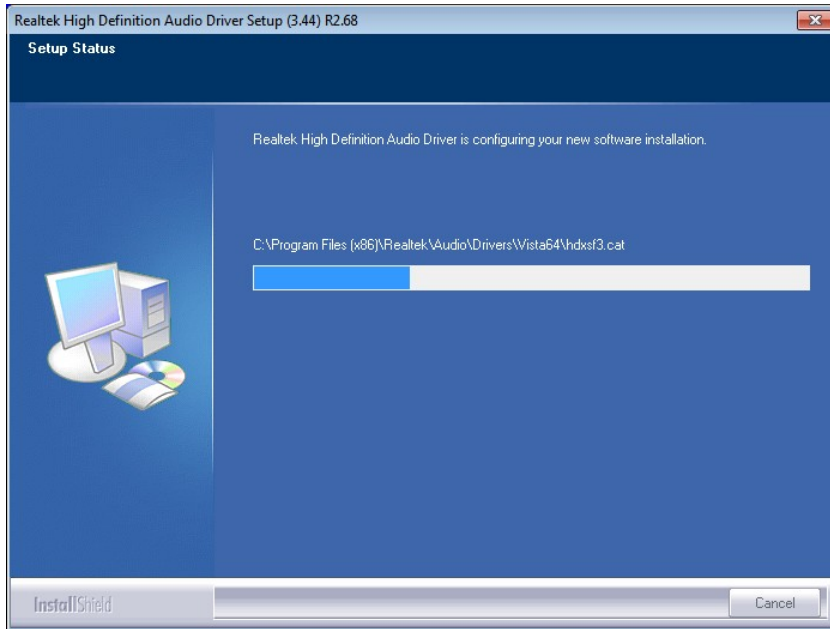

Figure 6-20: Audio Driver Software Configuration
Step 7: InstallShield starts to install the new software as shown in **Figure 6-20**.